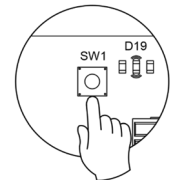

Fig. 5
The control board can also connect to Airzone wireless elements. These elements are associated by opening the wireless association module of the Control board. Press on SW1 and wait for the LED 19 to remain red (Fig. 5). The wireless association module will be open for 15 minutes.
**System reset:** If you want to return to factory values, press and hold on SW1 (Fig. 5) until LED D19 stops blinking. Wait 60 seconds until the system restarts before connecting again.